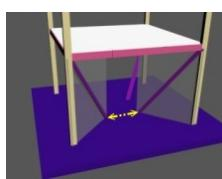

Figure 9.
- 4.8.1 Materials inside the building, when viewed from vertical projection, need to have an opening for access, as in Figure 9. The dimensions marked by red arrows in Figure 10 have to each be at least 5 cm.